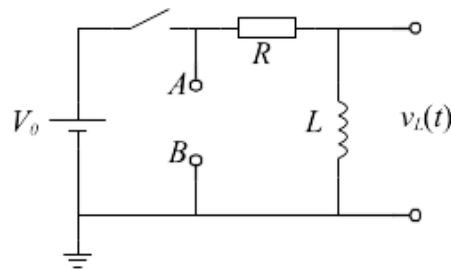

Figure 5 The circuit for problem 1.
1. Let us consider the ideal R_L circuit shown in Figure 5. The inductor has inductance L and is assumed to be an ideal inductor, meaning its internal resistance is zero. The resistor has resistance R , and the circuit is connected through a switch to a DC source whose voltage is V_0 .